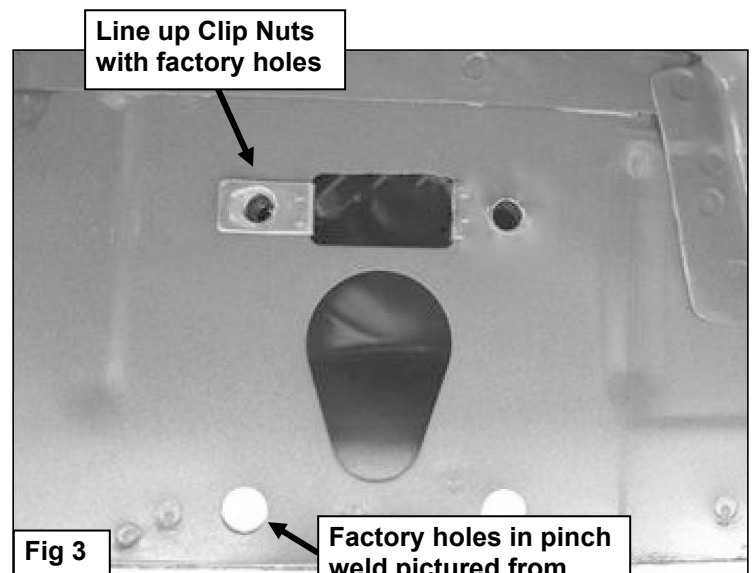

Fig 3
- Select (1) M10 Clip Nuts. Insert Clip Nuts one at a time into the rectangular opening and slide the threaded hole outward towards the round hole. Line up the threaded hole in the Clip with the round hole next to the rectangular opening. **NOTE:** Threaded nut must go towards the inside of the side panel, **(Figures 3)**.
- Partially attach (1) Mounting Bracket to the Clip Nuts with the included (1)M10 x 30mm Hex Bolts, (1) M10 Lock Washers and (1) M10 Flat Washers. **NOTE:** Cradles on the Mounting Brackets should face the front of the vehicle.
- Bolt the (1) bottom holes in the Mounting Bracket to the (1) holes in the pinch weld with the included (1)M10 x 30mm Hex Bolts, (2) M10 Flat Washers, (1) M10 Lock Washers and (1) M10 Hex Nuts. **NOTE:** Insert the Hex Bolt with Flat Washer through the pinch weld first then through the Bracket from the outside to inside. Do not tighten hardware at this time.